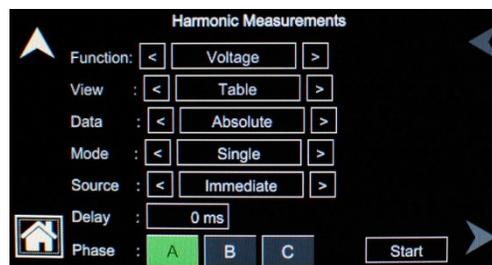

Figure 6-1. HARMONICS Menu
1. Navigate to the HARMONICS menu of the MEASUREMENTS screen; refer to Figure 6-1.